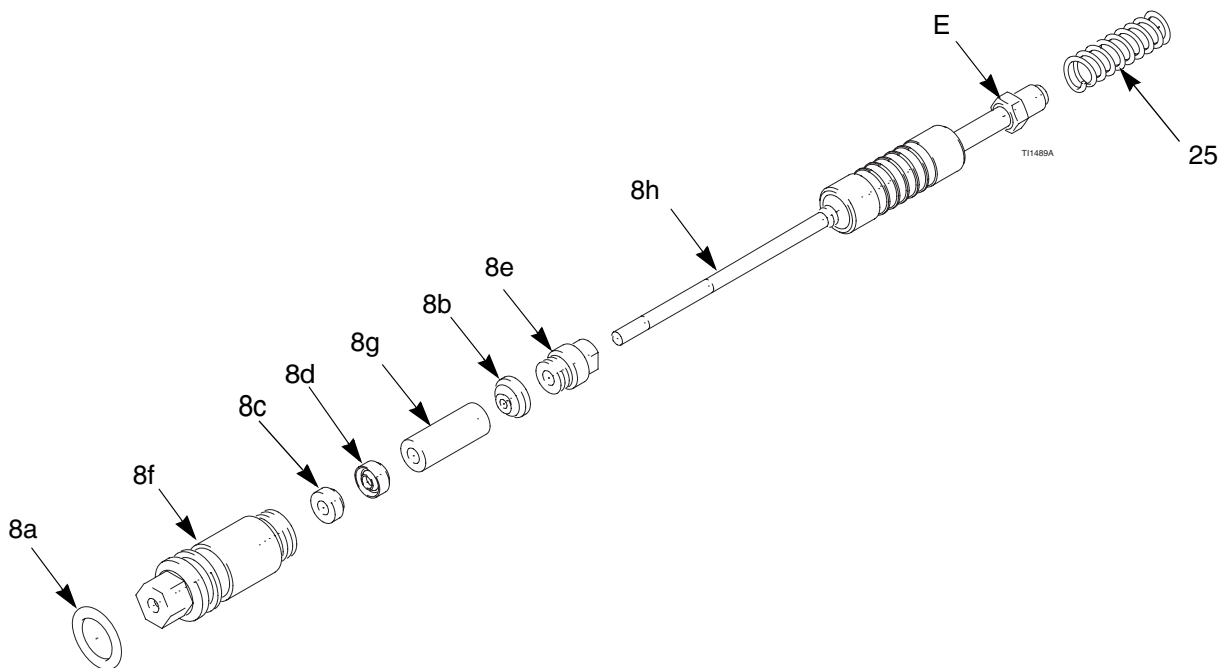

Fig. 24. Packing Rod
1. Place the packing nut (8e) and seal (8b) on the fluid rod (8h). Flats on the packing nut must face the back of the fluid rod. The seal o-ring must face away from the packing nut. See FIGURE 24.
6. Install the spring (25) against the nut (E) as shown.
7. Install the packing rod assembly (8) into the gun barrel. Using the multi-tool (40), tighten the assembly until just snug.
9. Install and adjust the actuator arm (29) and jam nut (28). See page 39.
11. Install the gun shroud (2) and air cap, page 34.